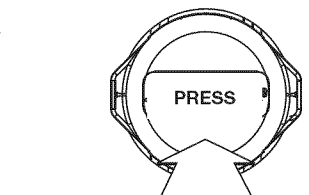

Fig. 17
5. Reattach the bump cap by aligning the tabs of the bump cap with the tab lock windows of the outer spool and press down firmly until both tabs snap back into place. (Fig. 17)